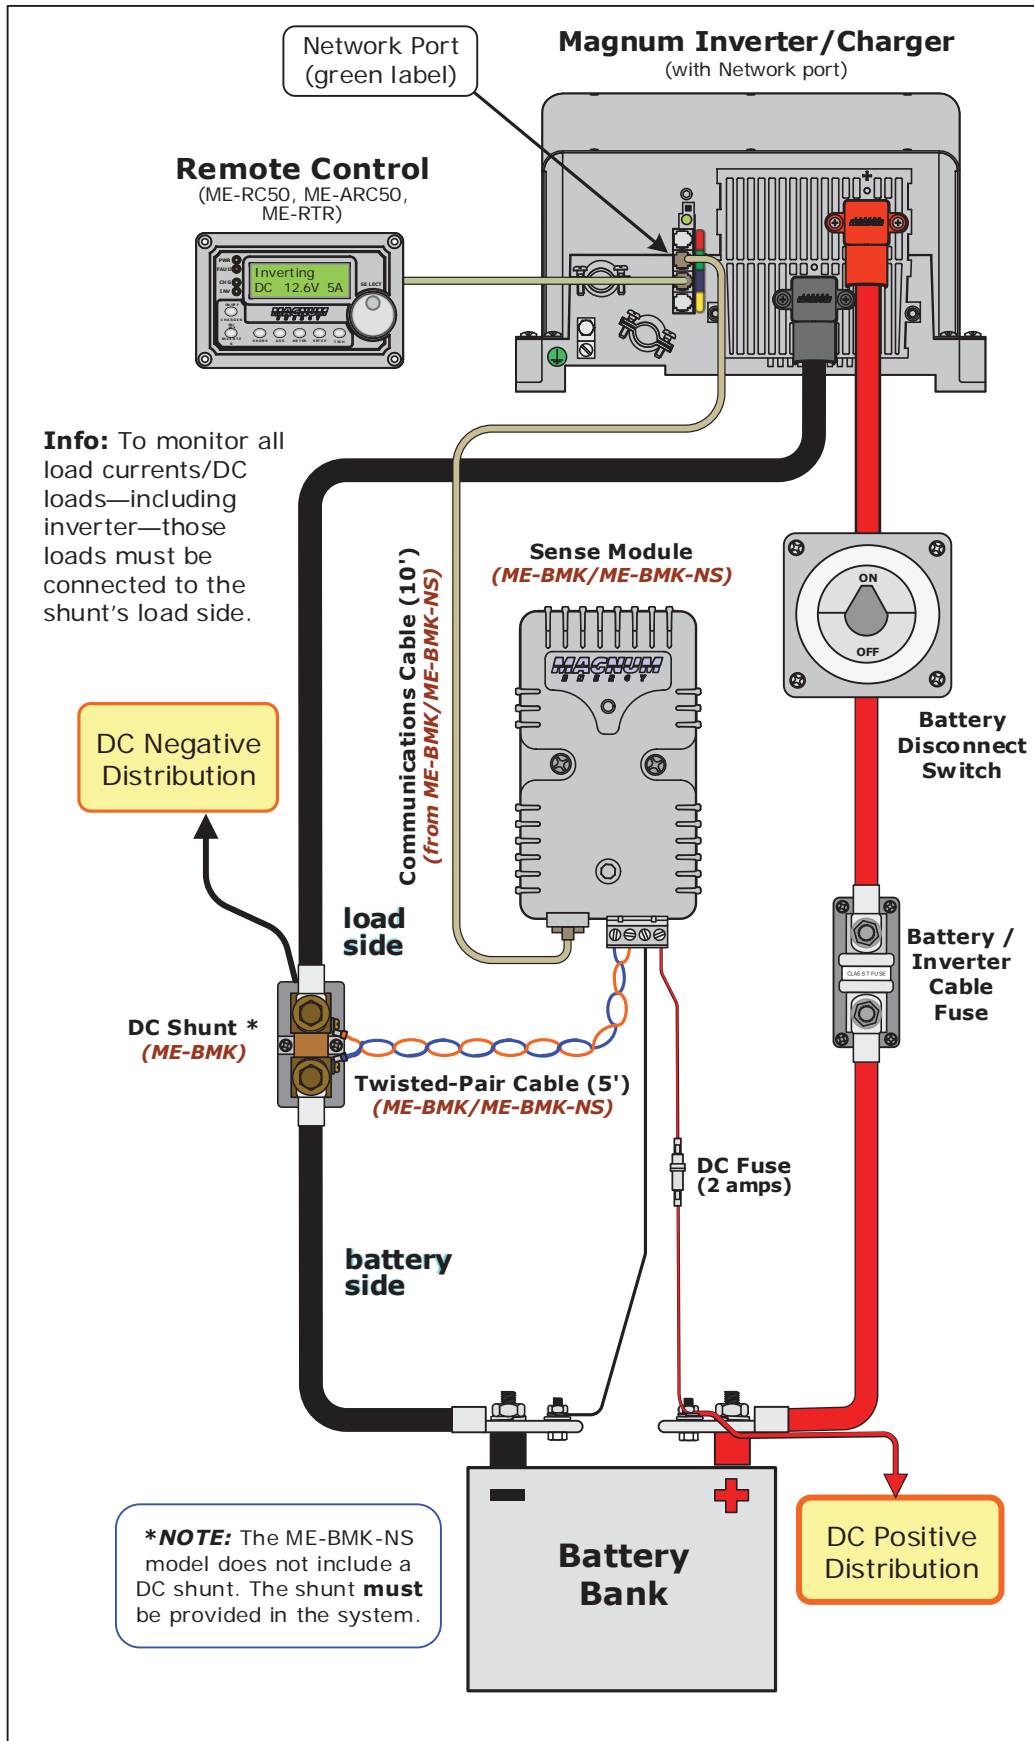

Figure 2-1, ME-BMK Basic Installation Diagram
To assist in planning and designing the installation, review the basic diagram in Figure 2-1. If installing another network device besides the ME-BMK, refer to Sections 2.2.3 and 2.2.4 for options.
1. Using an appropriate sized cable, connect the inverter's DC negative terminal to the DC shunt's load side (per Figure 2-1).
1. Connect one end of the communication cable to the inverter's network port, and then connect the other end to the network port on the BMK sense module. See Figure 2-1.
4. Using the supplied 5' twisted-pair wire: a) Connect the ring terminal end of the blue wire to the small screw on the **battery side** of the shunt; then, b) Connect the ring terminal end of orange wire to the small screw on the **load side** of the shunt. Use Figures 2-1 & 2-2 as guides before connecting.